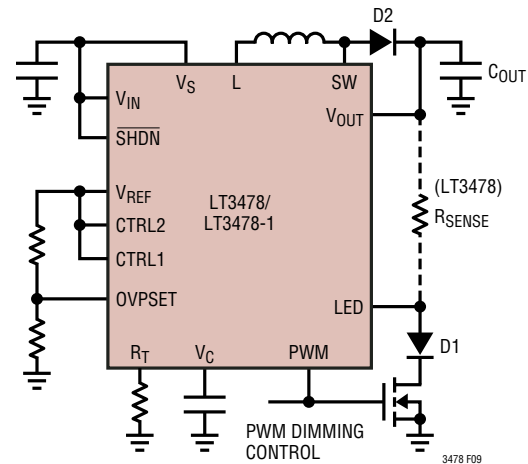

Figure 9. PWM Dimming Control Using the LT3478/LT3478-1
Many LED applications require an accurate control of the brightness of the LED(s). In addition, being able to maintain a constant color over the entire dimming range can be just as critical. For constant color LED dimming, the LT3478/LT3478-1 provide a PWM pin and special internal circuitry to allow up to a 3000:1 wide PWM dimming range. With an N-channel MOSFET connected between the LED(s) and ground and a PWM signal connected to the gate of the MOSFET and the PWM pin (Figure 9), it is possible to control the brightness of the LED(s) based on PWM signal duty cycle only. This form of dimming is superior to dimming control using an analog input voltage (reducing CTRL1 voltage) because it allows constant color to be maintained during dimming. The maximum current
(5) Higher output capacitor value improves PDR
(6) Choose the schottky diode (D2, Figure 9) for minimum reverse leakage